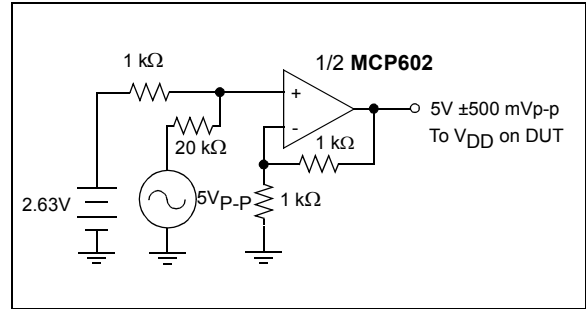

FIGURE 1-4: Power Supply Sensitivity Test Circuit (PSRR).
- 4: $V_{DD} = 5V$ DC $\pm 500 mV_{P-P} @ 1 kHz$, see test circuit Figure 1-4.
Note 4: $V_{DD} = 5V$ DC $\pm 500 \text{ mV}_{P-P}$ @ 1 kHz , see test circuit Figure 1-4.
- 4: $V_{DD} = 5V DC \pm 500 mV_{P-P} @ 1 kHz$, see test circuit Figure 1-4.